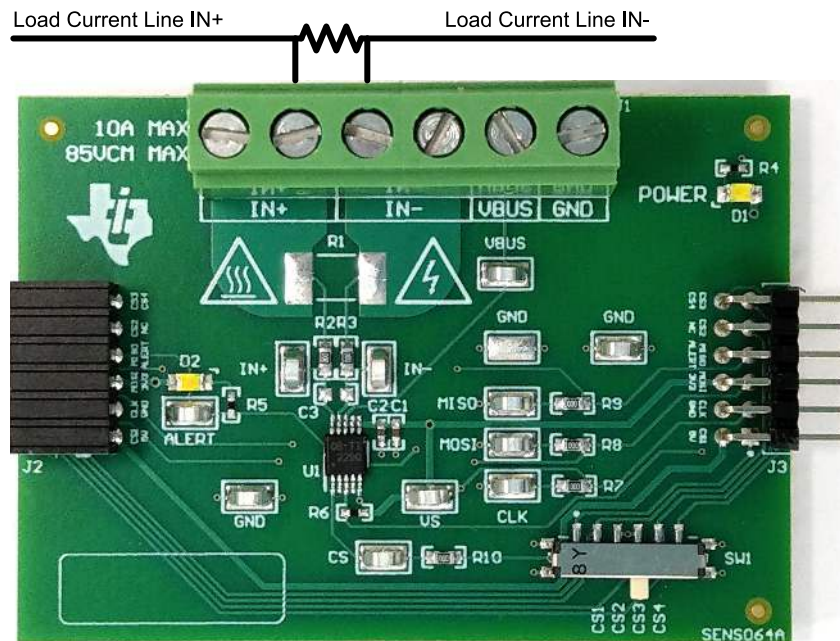
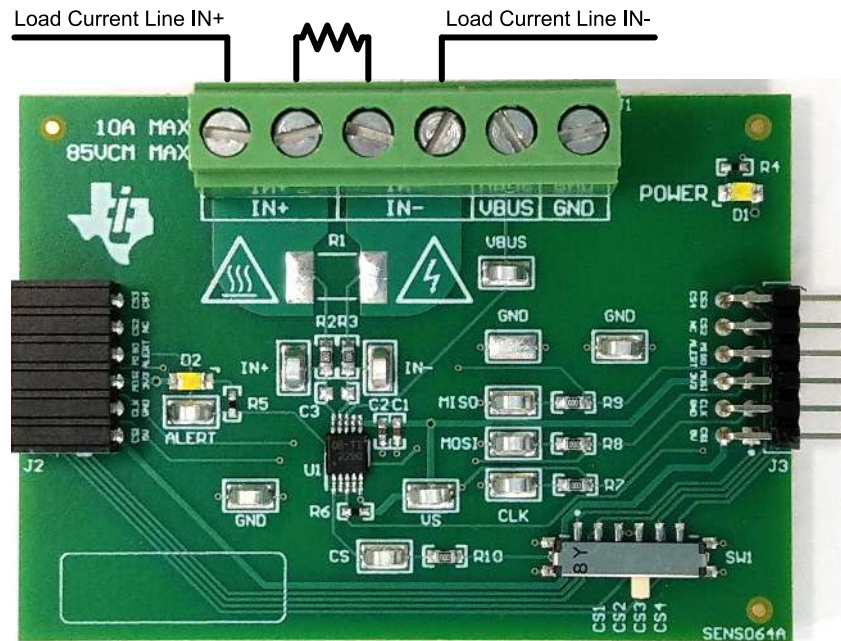

Figure 4-14. IN+ and IN– Wiring for More Than 10A
Figure 4-15. IN+ and IN- Wiring for 10A or Less
- b. Connect an external shunt across the IN+ and IN– terminals of J1, preferably across pins 4 and 5, as shown in Figure 4-14 and Figure 4-15.
- a. When measuring more than 10 A, make sure the high current path does not go through the EVM (including the terminal block J1), as shown in Figure 4-14.
- b. When using 10 A or less with either an onboard or external shunt, the current path can be passed through the EVM. Figure 4-15 shows a convenient way to use the multiple IN+ and IN- terminals with an external shunt for this use case.